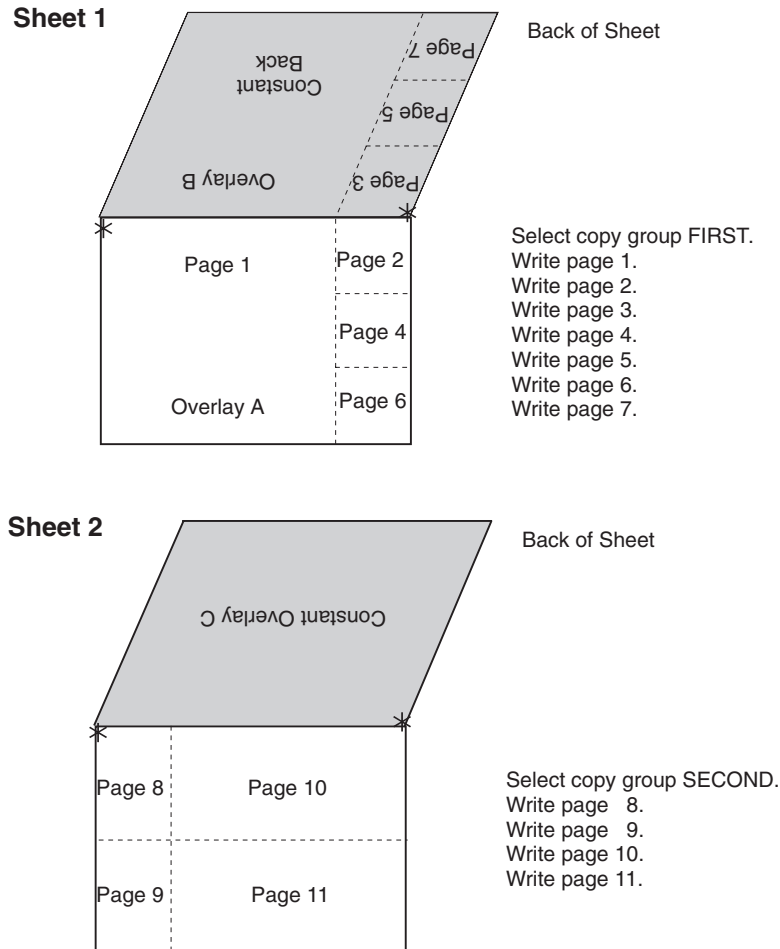

Figure 96. Enhanced **N\_UP** Example 3: Asymmetric Pages
Figure 96 shows the flexibility and power of enhanced **N\_UP** printing. With enhanced **N\_UP** printing, you can place pages relative to any partition on the sheet, front or back, in any sequence. Pages are not limited by partition boundaries. The only limitations are that pages must not print outside the physical form boundaries, and you cannot place more pages on a sheet than the number specified in the **N\_UP** subcommand. For an **N\_UP 4** duplex page, the limit is eight pages total on front and back sides combined. For **N\_UP 3** duplex, the limit is six pages on the front and back combined.
**Note:** In the duplex examples in Figure 96 all of the pages can be on one side, with the other side blank.